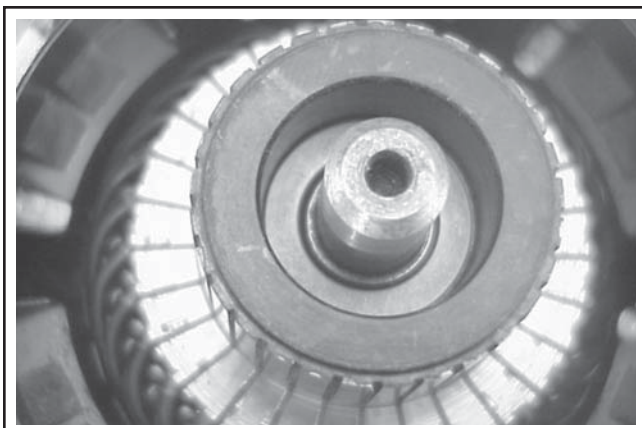

Figure 7-29. Installing Thrust Washer.
9. Install the flat thrust washer onto the commutator end of the armature shaft. See Figure 7-29.